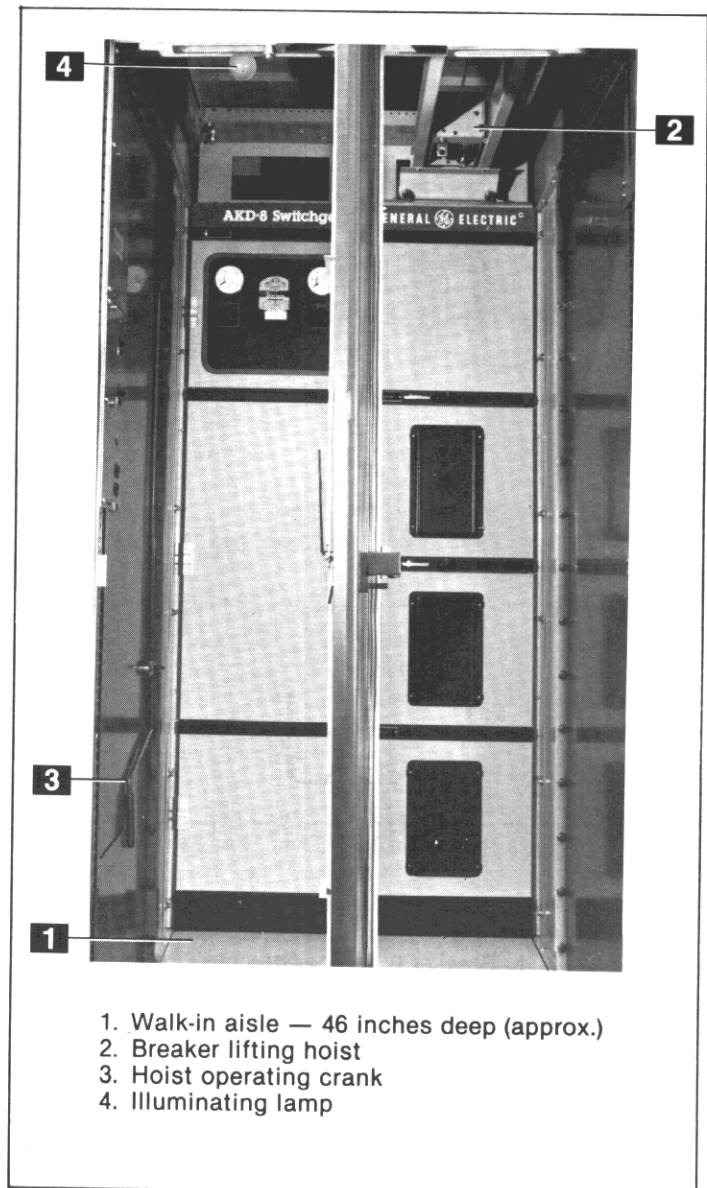
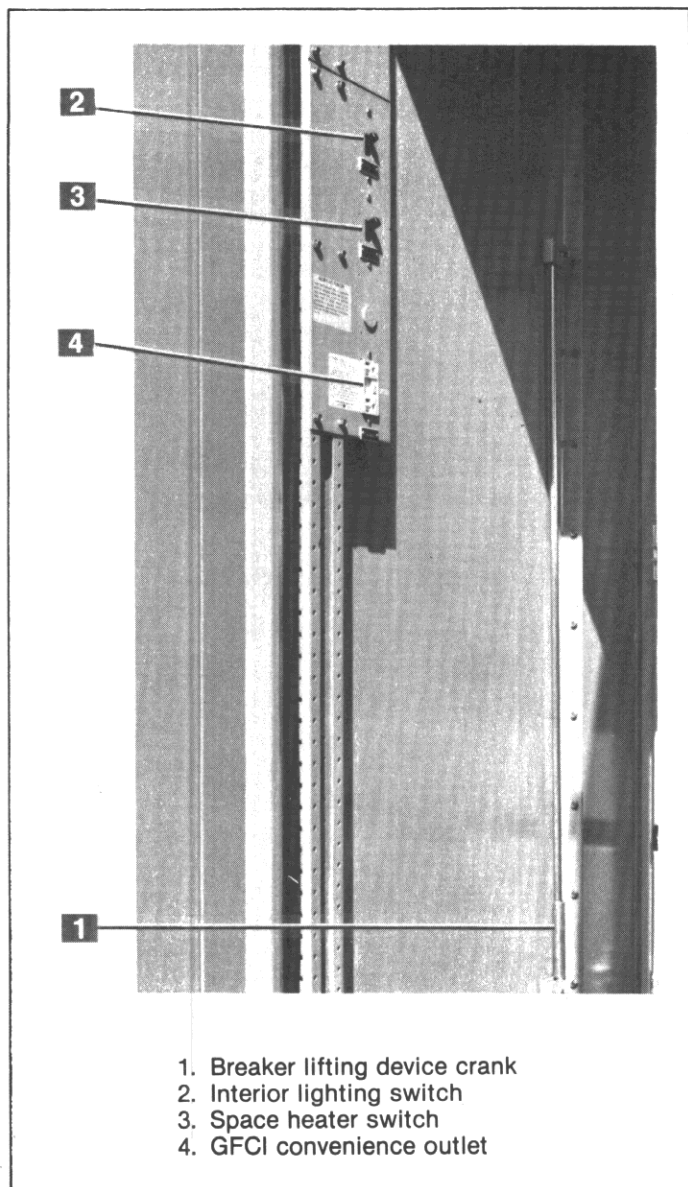

Fig. 3-31. AKD-8 Switchgear outdoor enclosure
Fig. 3-32. Outdoor enclosure accessories
AKD-8 switchgear designed for outdoor installations is fully weatherproofed. See Fig. 3-31 and 3-32. A weatherproof housing completely encloses the switchgear and is provided with a walk-in front aisle for easy access to all controls and instruments.
A light with wall switch (2), Fig. 3-32 and a 115-volt convenience outlet (4) are standard devices supplied with outdoor switchgear equipments. Also included in the walk-in front aisle area are the breaker lifting device (2), Fig. 3-31, and storage provision for the hoist operating crank (3).
Heaters are fed by the control power transformer. The on-off control switch (3), Fig. 3-32, is located in the walk-in front aisle.